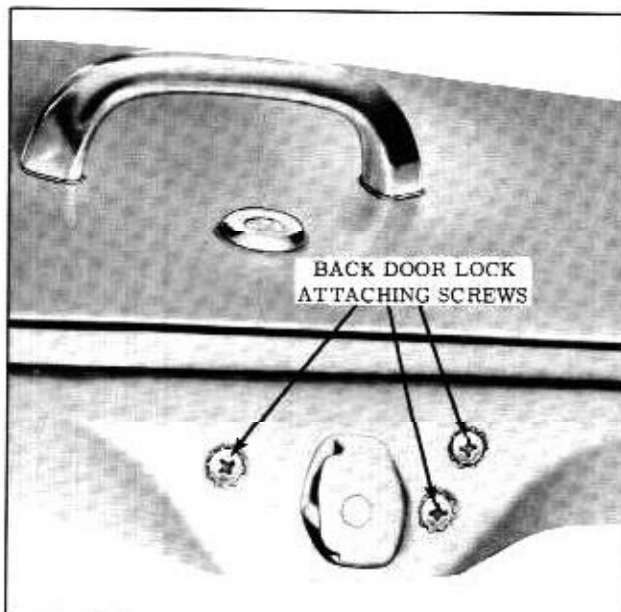

Fig. 15-54 Back Door Lock
2. Remove three back door lock attaching screws from face of lock pillar, (Fig. 15-54), and remove lock through hole in door inner panel.